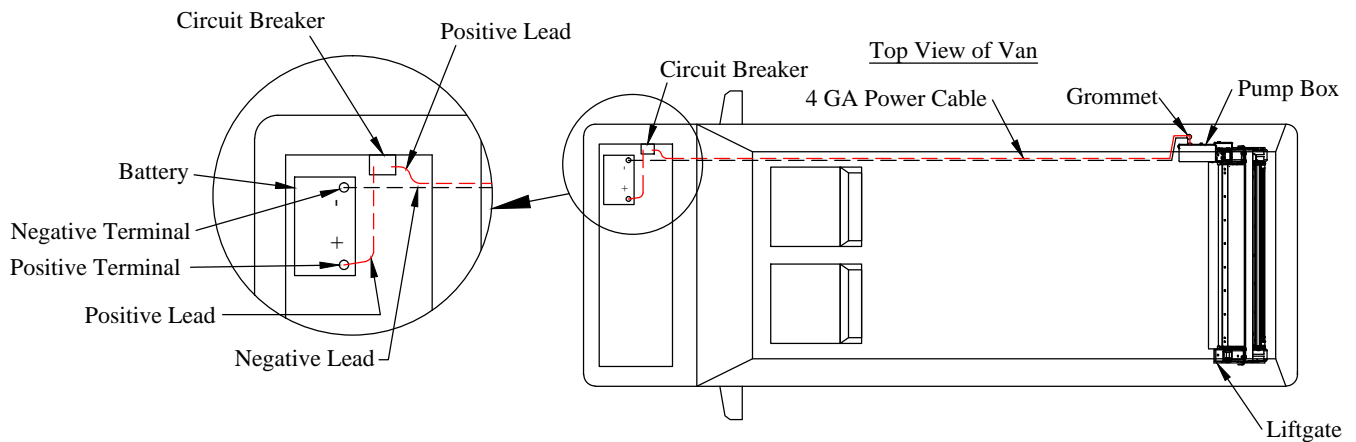

Figure 14: Electrical routing.
1. **Install** the circuit breaker on the vehicle fender, firewall, or other location inside the engine compartment away from moving parts. Leave enough room for the power cables to be installed and so that the circuit breaker can easily be reset (Figure 14).
4. **Route** the power cables under the vehicle from the liftgate, along the frame, to a location near the battery (Figure 14).